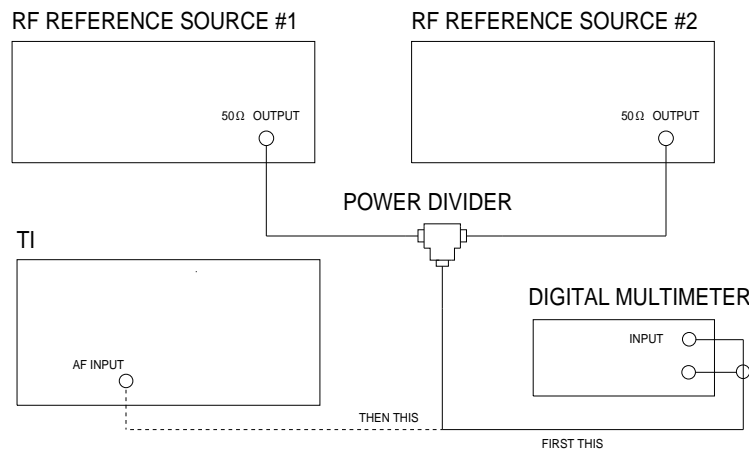

Figure 2.
4.3.3.1 Connect equipment as shown in Figure 2 with the Power Divider input connected to the Digital Multimeter input.
- 4.3.3.13 Set all outputs to minimum. Connect equipment as shown in Figure 2 with the Power Divider input connected to the Digital Multimeter input.